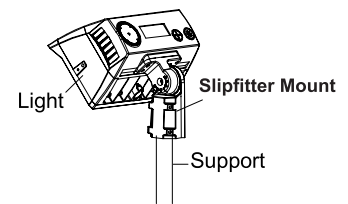

FIGURE 6
2. Loosen the fixing bolts and adjusting bolts, align the fixture to required angle. Tighten adjusting bolt and fixing bolts after the angle is confirmed (FIG 6)
- Notice: Adjustable angle is 0~+/-90° (FIG 6)